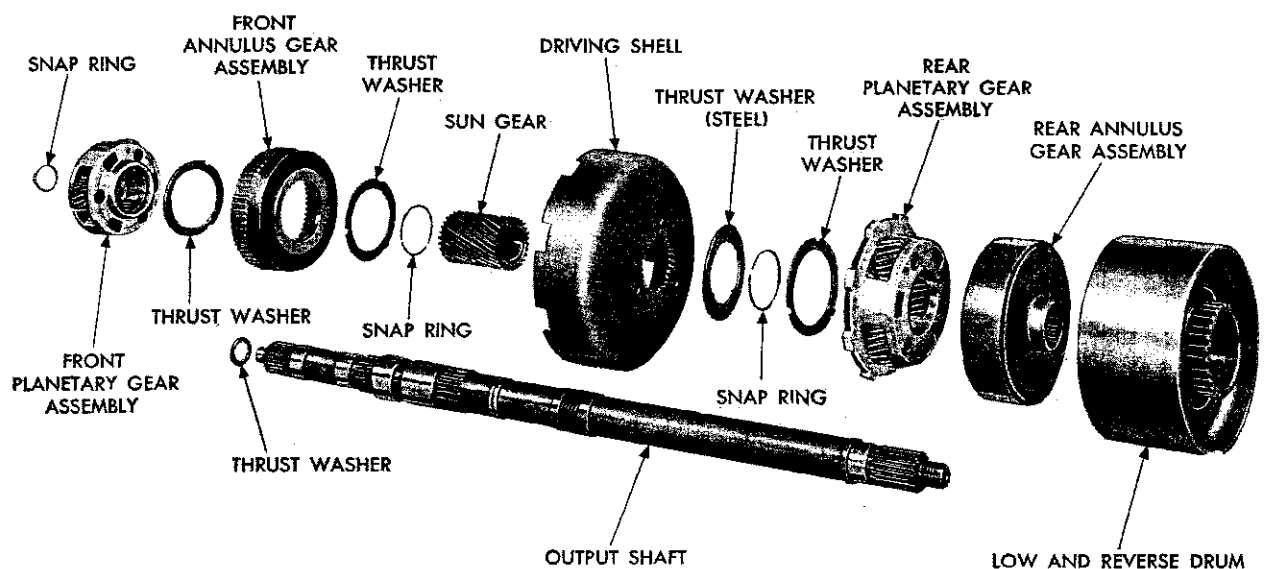

Fig. 76—Planetary Gear Assemblies, Sun Gear, Driving Shell, Low and Reverse Drum and Output Shaft (Disassembled View)
- (1) Remove the thrust washer from forward end of the output shaft (Fig. 76).
- (2) Remove the snap ring from forward end of the output shaft, then slide the front planetary assembly off the shaft.
- (3) Slide the front annulus gear off the planetary gear set (Fig. 76). Remove the thrust washer from rear side of the planetary gear set.
- (4) Slide the sun gear, driving shell, rear planetary assembly with low and reverse drum off the output shaft.
(5) Lift the sun gear and driving shell off the rear planetary gear assembly. Remove the thrust washer from inside the driving shell. Remove snap ring and steel washer from the sun gear (rear side of driving shell) and slide the sun gear out of the shell. Remove front snap ring from the sun gear if necessary. Note that the front end of the sun gear is longer than the rear.
(6) Remove the thrust washer from forward side of the rear planetary gear assembly, remove the planetary gear set from the rear annulus gear.
Refer to Figure 76 for parts reference.
(1) While supporting the assembly in the case, insert the output shaft through the rear pump housing. Carefully work the assembly rearward engaging the rear planetary carrier lugs into the low-reverse drum slots.
(2) Apply a coat of lubricant on the input to output shaft thrust washer (Fig. 76), and install washer on the front end of the output shaft.